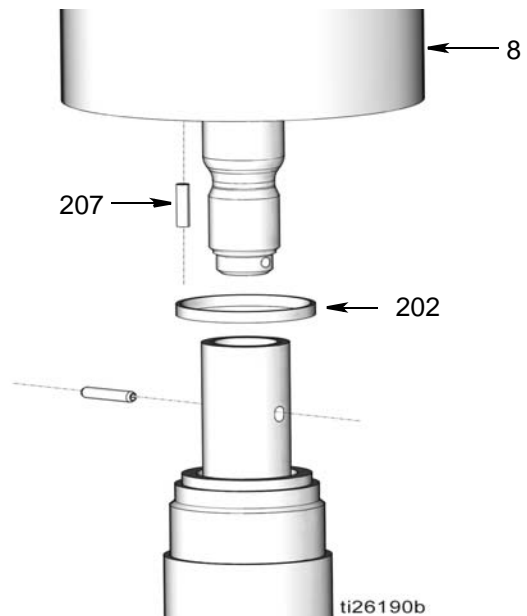

FIG. 28
2. Replace nylon pellet (207) in threads on bottom of pump adapter (8) (FIG. 28).
3. Install new gasket (202) in pump adapter (8) (FIG. 28).
- Screw connecting rod (107) into displacement rod (35) until holes align. Install cotter pin (204) through holes.